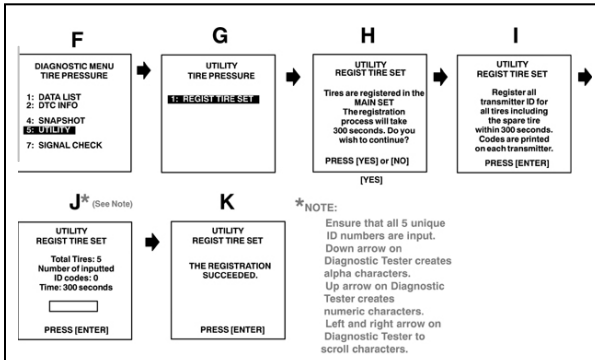

Fig. 10-3
- (d) Turn on Tester and Select UTILITY - REGIST TIRE following the hand-held tester screen prompts. (Fig. 10-2 & Fig. 10-3)